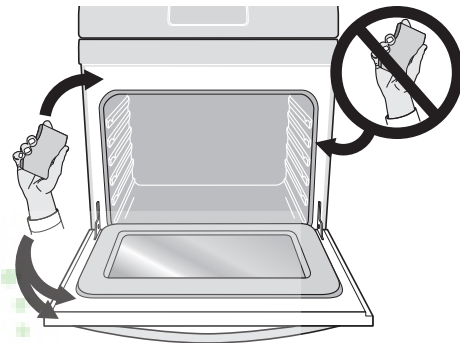

Figure 16: Areas to clean and area (gasket) to avoid
8. When the steam clean cycle is over, stand to the side of the door to avoid any steam escaping the oven. The cycle includes a cool down period allowing you to immediately use a soft cloth or sponge to remove any remaining water. Wipe oven cavity bottom. Do not clean the oven door gasket (Figure 16).